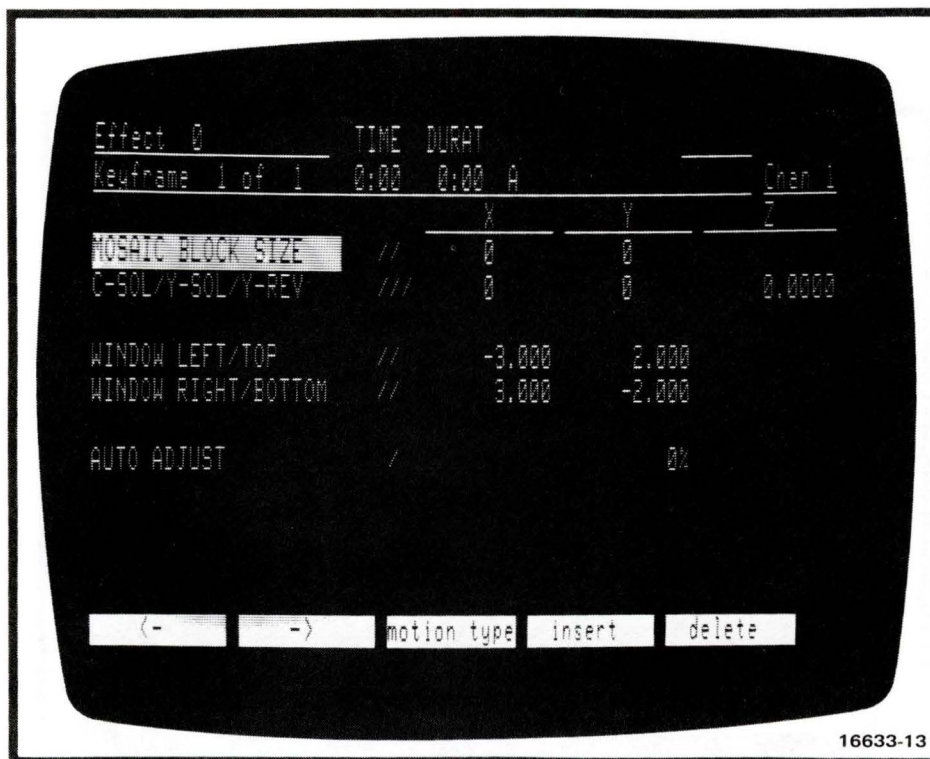

Figure 2-17. Input Video Parameters Menu
- **iv parms** brings up input video parameters display (see Figure 2-17) and a soft key menu consisting of: